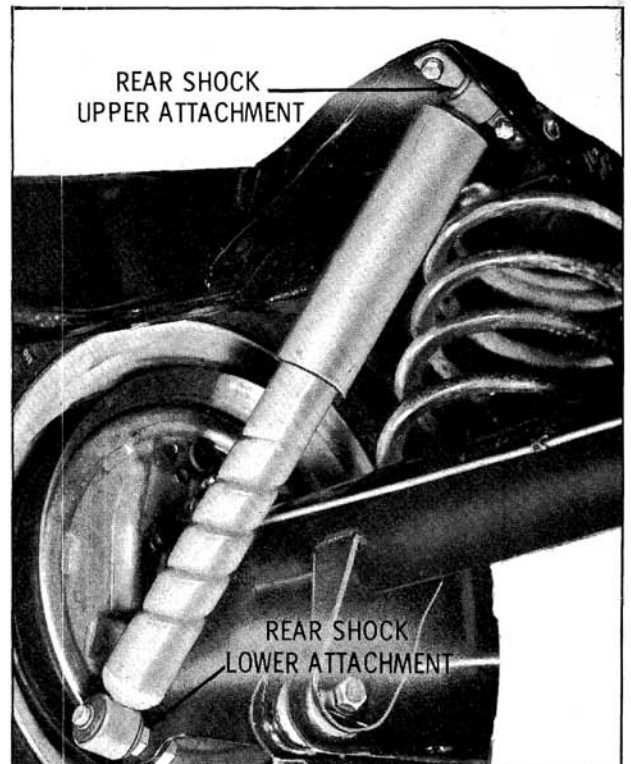

Fig. 9-147 Rear Shock Absorber (Exc. Ext. Wagon)
1. Disconnect shock from lower bracket. (Fig. 9-147)
The double action shock absorbers are mounted by two bolts through the frame at the top and to a bracket welded on the axle housing. (Fig. 9-147)